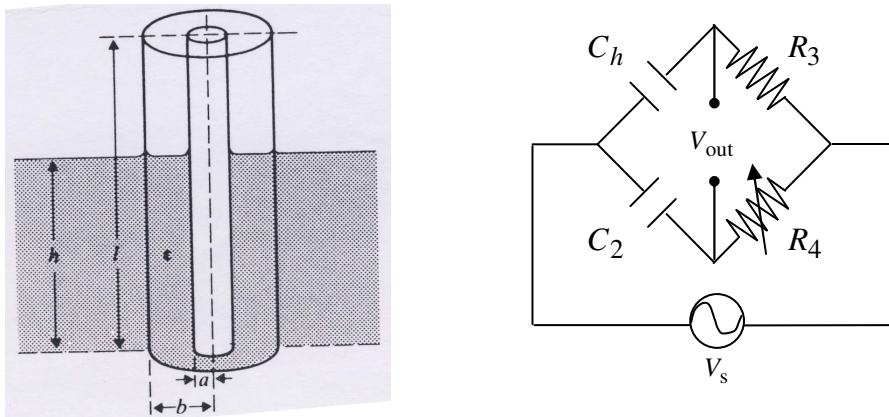

Fig. 5
- (i) Derive the balanced conditions of Fig. 5,